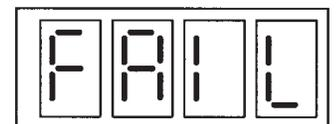

Figure 4. Accept and Fail Displays
- (8) When you press the calibration button to accept the fifth and final reading (Figure 3), the system will indicate a successful calibration run by flashing "ACC." (accepted), as shown in Figure 4. Press the button one more time to clear the accepted indication and return to normal operation.
- (9) If the calibration fails for any reason, a "FAIL" indication will flash. Press the button one more time to clear the failure indication and return to normal operation. In this case, the new calibration data will be discarded and the old data used.
- c. Once the setting is achieved, press the button to record that relay setpoint. The system will indicate a successful completion by flashing "ACC." (for accepted), as shown in Figure 4. Record successful calibration..